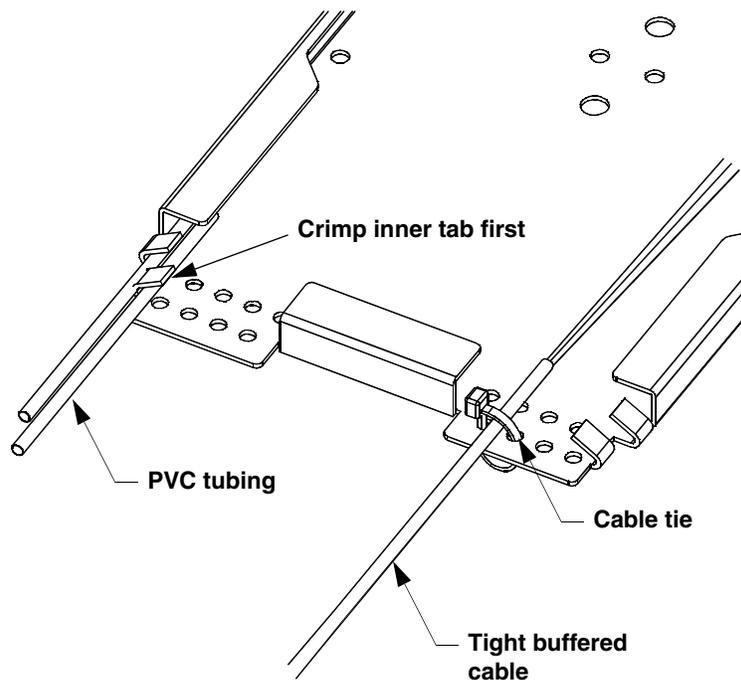

Fig. 3
- 3.5 Securing Fiber In Splice Tray - Select crimping tab to be used for securing loose tube buffer. When multiple buffer tubes are used select inner tabs first. Crimp loose buffer tubes using crimping pliers. Buffer tubes should extend 1/2" beyond tab into tray. (Fig. 3)
- 3.6 Tight buffered fibers can be secured with cable ties threaded through cable tie slots located on splice tray base. If cable jacket cannot be routed up to splice tray use PVC tubing to protect buffered fibers. (Fig. 3)